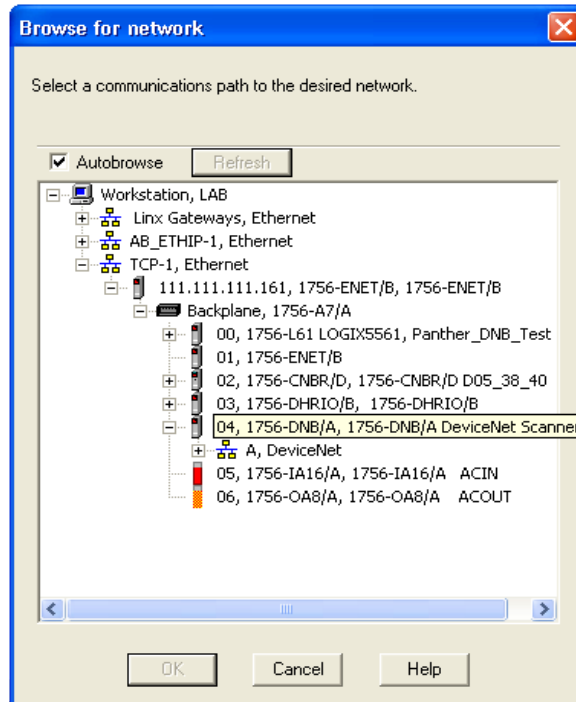

Figure 3-12: Browse for network
2. Select the appropriate network path. In this case (Figure 3-12), 1756-DNB/A DeviceNet Scanner is selected.